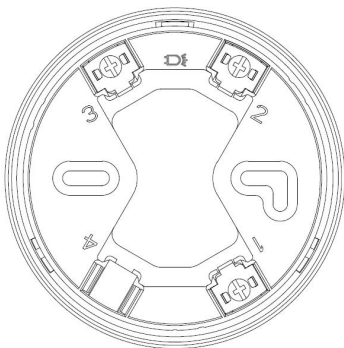

Fig.2
5.1 Schematic diagram of detector base (DZ-A16K), as shown in Fig.2: